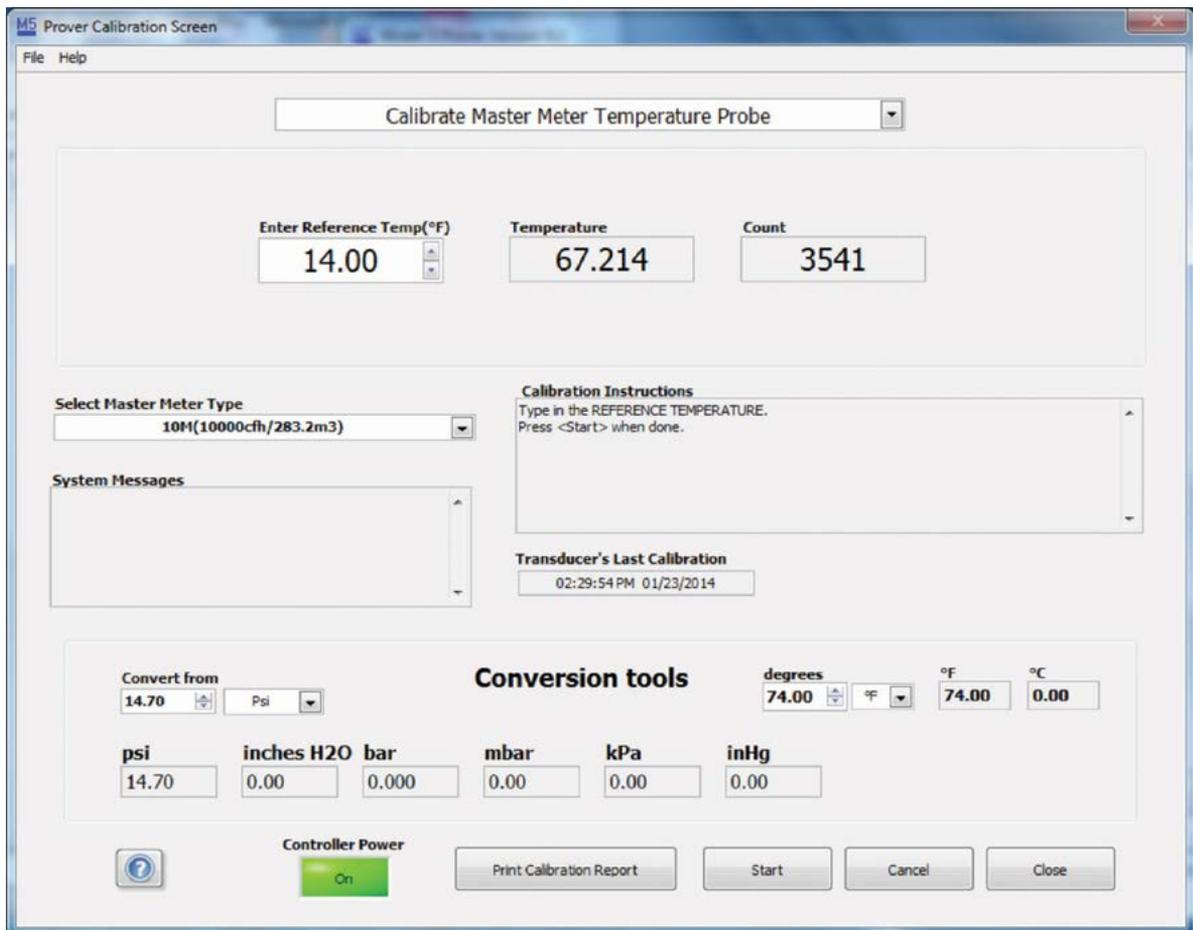

Figure 129: Select Calibrate Master Meter Temperature Probe
1. From the Prover Calibration Screen, select the pull down arrow and click "Calibrate Master Meter Temperature Probe." Refer to **Figure 129**.